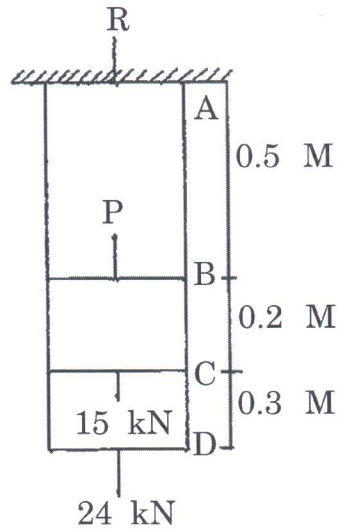

Fig. 1
2. (a) A steel bar ($E = 200 \text{ GPa}$) is supported and loaded as shown in fig. The cross-sectional area of the bar is 250 mm^2 . Determine the force P so that the lower end D of bar does not move vertically when the loads are applied. (Fig. 1) [8]